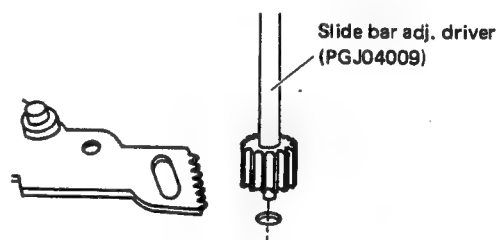
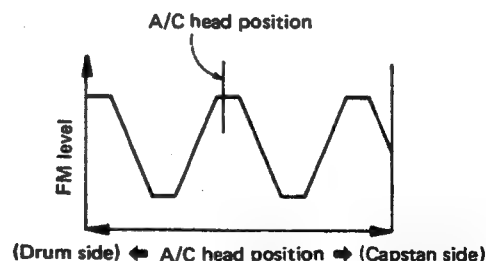

Fig. 2-54
Fig. 2-55
7. Set the slide bar adj. driver (PGJ04009) as shown in Fig. 2-54. Slowly turn the tool to where the 2nd maximum peak of the FM waveform is obtained (Fig. 2-55).